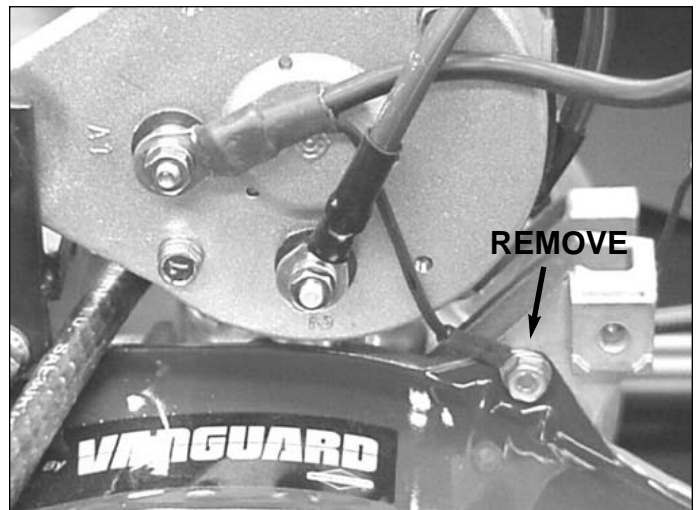

Figure 79 - Remove Engine Ground Lead
8. Locate ground lead from starter/generator to fan housing and remove lead from fan housing. See Figure 79.
5. Locate ground lead from starter/generator to fan housing and install lead to engine using fan-housing bolt. See Figure 79.